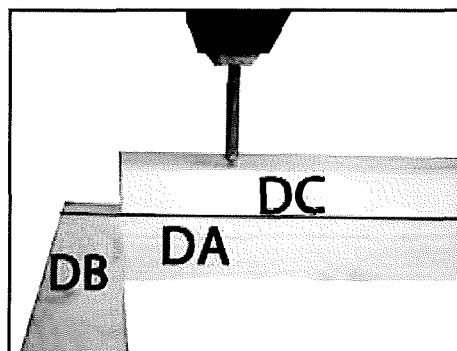

Fig 6
- 10 Fix to part DC to A with 40mm screws (fig 6 & 7) **important** fix at both ends first ensuring that they stay flush then the screws in between again ensuring that parts DA & DC are flush as you go.